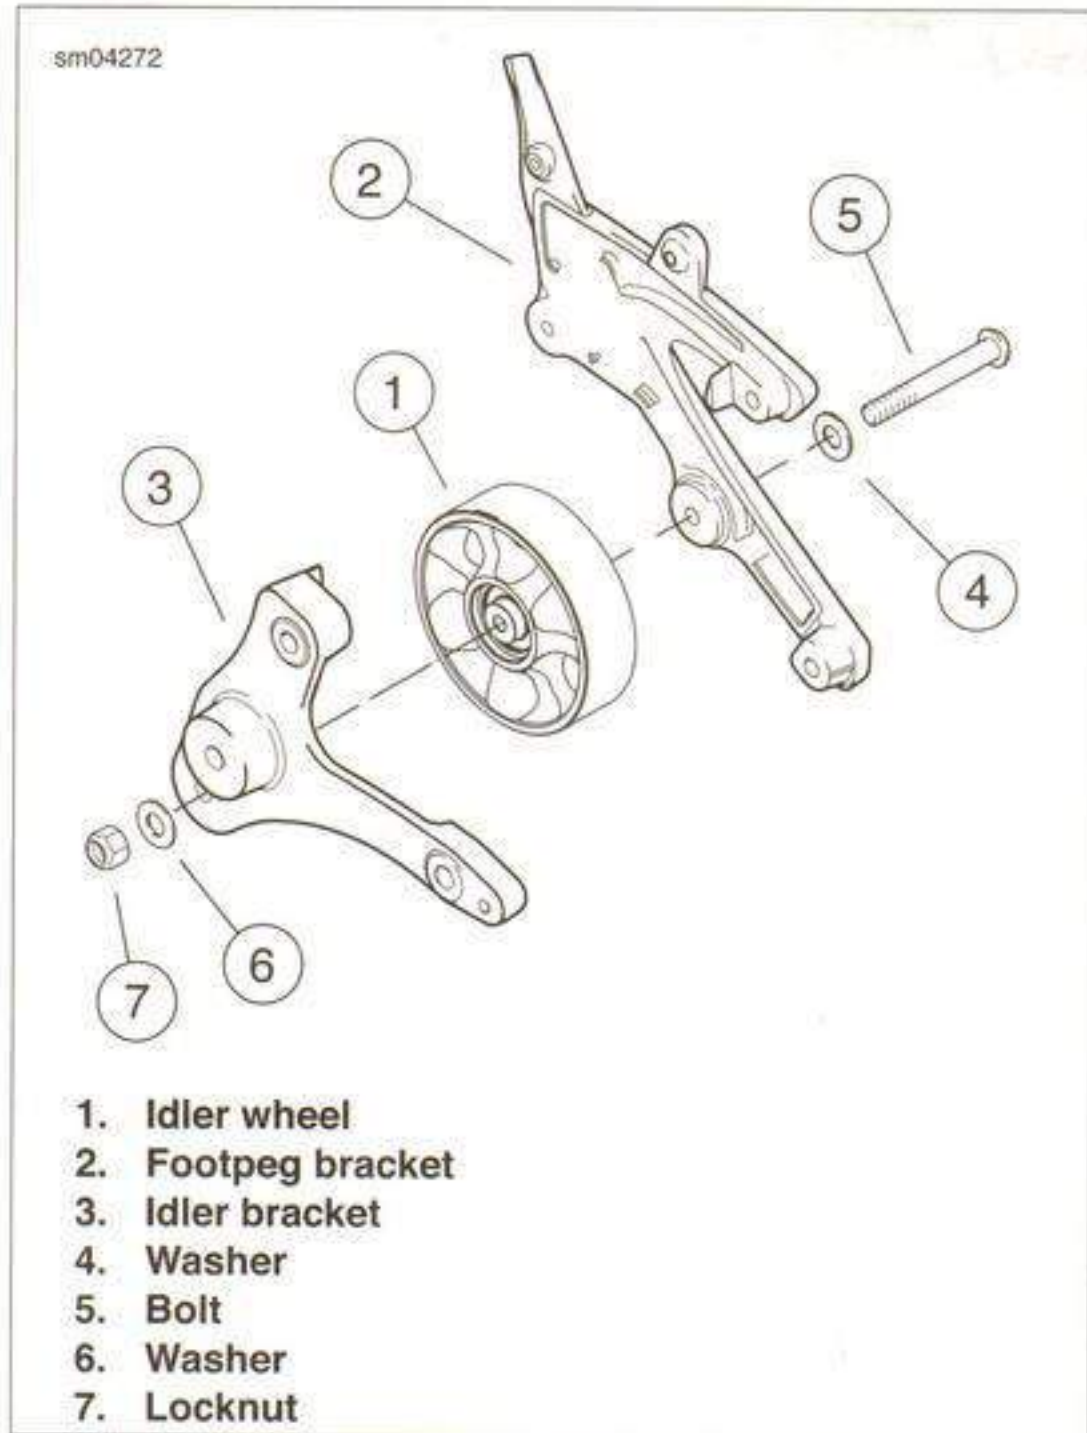

Figure 6-119. Idler Assembly
1. See Figure 6-119. Hold the idler wheel (1) in place between the footpeg bracket (2) and the idler bracket (3).
2. Install the washer (4) and bolt (5) through the footpeg bracket, the idler pulley and the idler pulley bracket.
3. Install the washer (6) and the locknut (7).